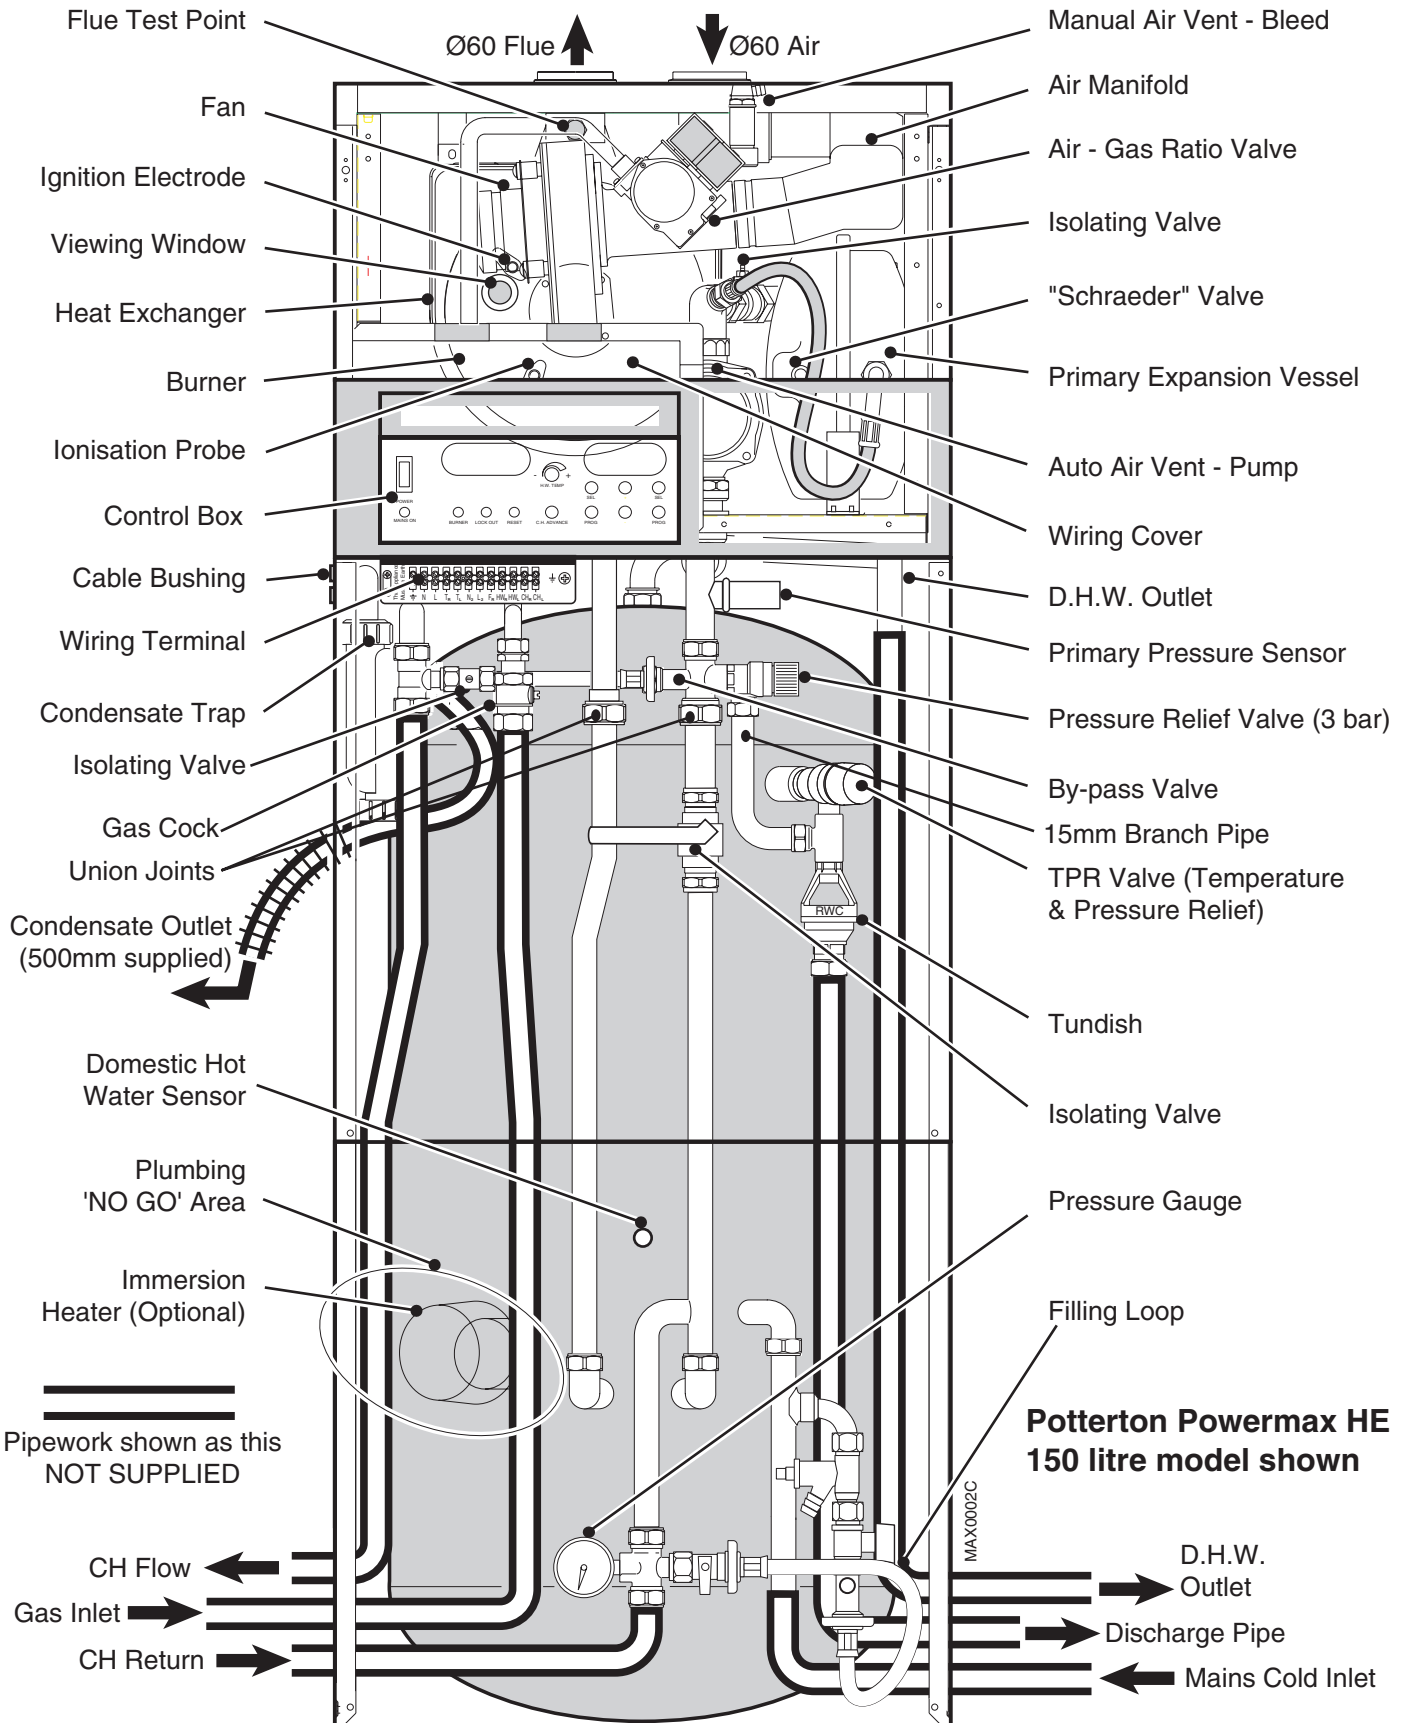

Fig. 10
4. **Apply sealant to cone faces** of both 22mm Union Nuts (see Fig. 10). Remove cardboard pipework support. Attach the 15mm x 90° branch pipe joining the two relief valves/tundish.
See Figs. 10 and 11. Observe guidance provided in Section 1.6. Always tee the cold feed to shower fittings (and other mixer fittings) into the pipe supplying the hot water store i.e. downstream of the Inlet Control Group. This will ensure a balanced pressure supply to the shower(s).
A pressure relief valve set at 3.0 bar is fitted to the primary pipework near the top of the tank. See Fig. 10.